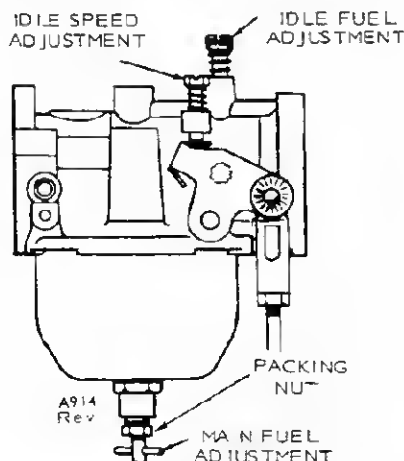

FIGURE 5. GASOLINE CARBURETOR
1. With no load, turn idle fuel adjustment out until engine speed drops slightly below normal, Figure 5. Then turn needle in until speed returns to normal.